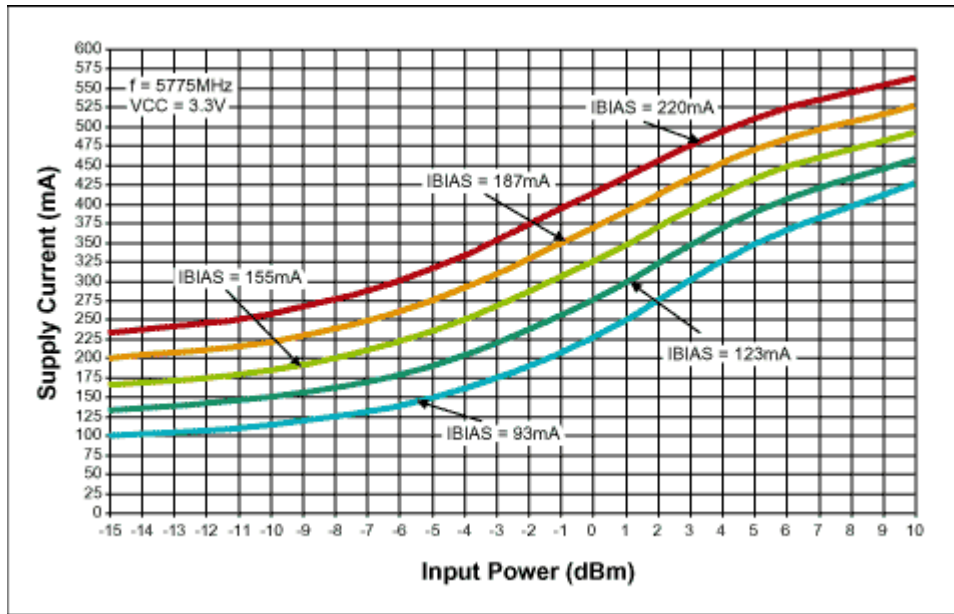

Figure 3. The MAX2840 5.8GHz PA supply current vs. input power and bias current
- **Supply Current.** Refer to Figure 3 for a graph of supply current vs. input power for various bias current settings. The PA can be optimized to deliver up to 23% PAE efficiency at 5.8GHz